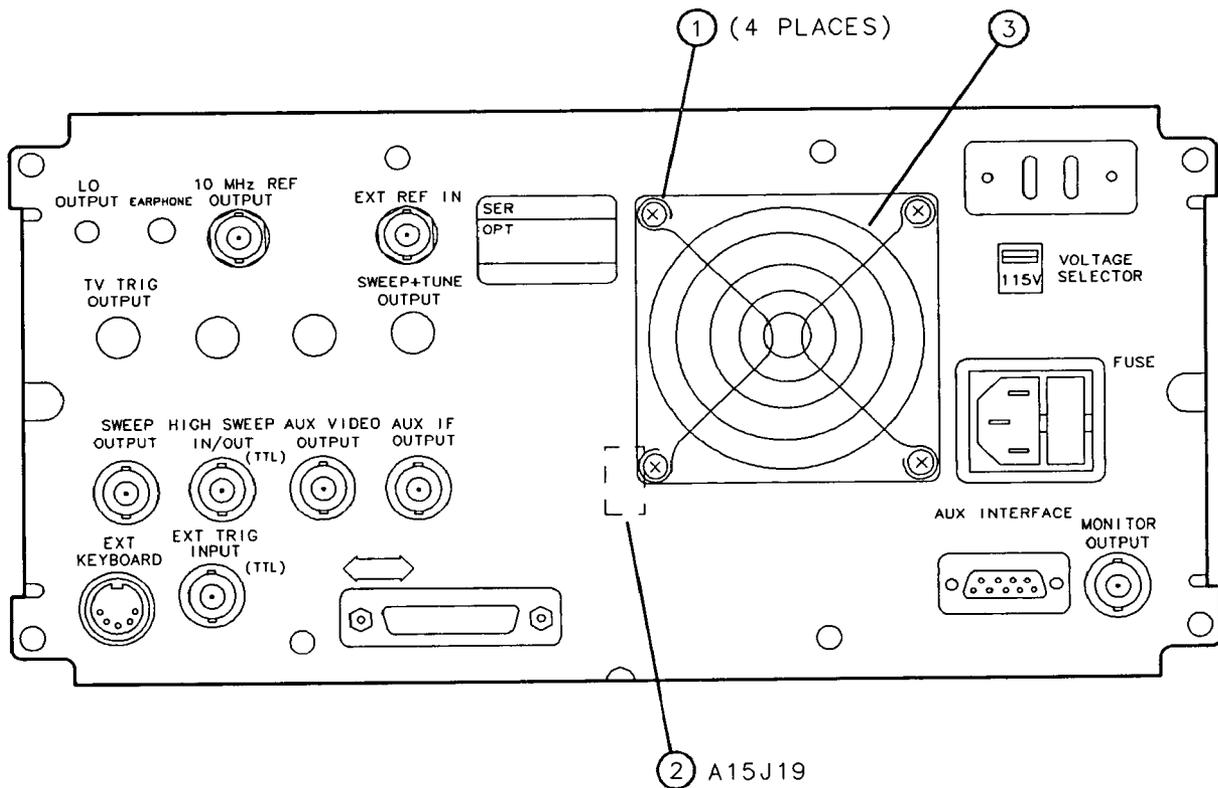

Figure 3-14. B1 Fan Replacement
3. Hold the B1 Fan Assembly in position and loosen the four screws (1) that secure the fan assembly to the rear-frame assembly. See Figure 3-14.
4. Pull the fan 2 inches away from the instrument, reach into the opening in the rear frame, and disconnect the fan wiring from A15J19 (2).
5. Remove the four screws, washers, and spacers from the fan (1).
6. Remove the fan grill (3).
1. Position the fan grill on the B1 Fan (**3**). The fan label must be visible through the fan grill to make sure that the fan provides the correct airflow. See Figure 3-14.